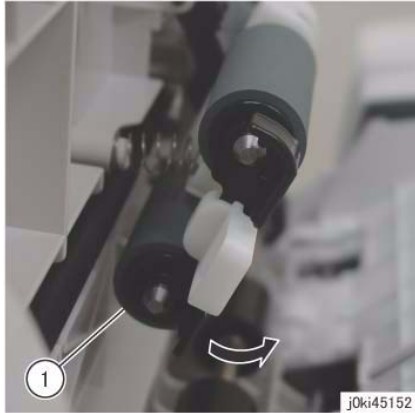

Figure 2 Shift the housing
5. Shift the housing. (Figure 2)